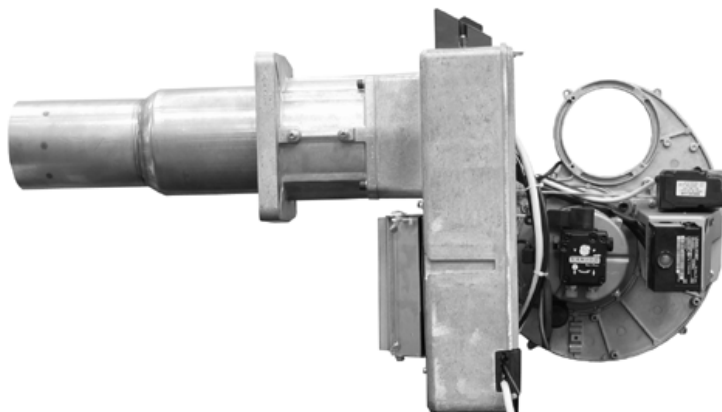

Fig. 46
- Hook the burner components plate as shown in Fig. 46.